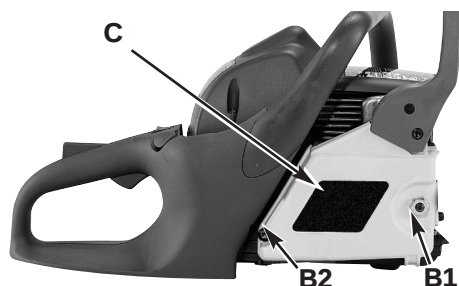

Fig. 18
2. Remove the bar retaining nut (B1) and the screw (B2) at rear of clutch cover (C). Remove clutch cover (C) by pulling straight out, some force may be required. (Fig. 18). Remove bar and chain.